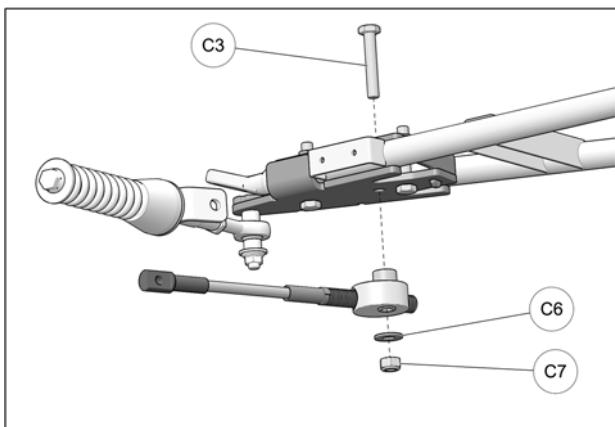

Fig. 22
13. Pass bolt (**C3**) down through opening in bracket cover and insert it in the anchor bracket's central hole. Slip steering limiter cable assembly over bolt (**C3**) and use washer (**C6**) and nut (**C7**) to secure assembly to anchor bracket. Tighten nut to 50 N·m [37 lb·ft]. Refer to Fig. 22